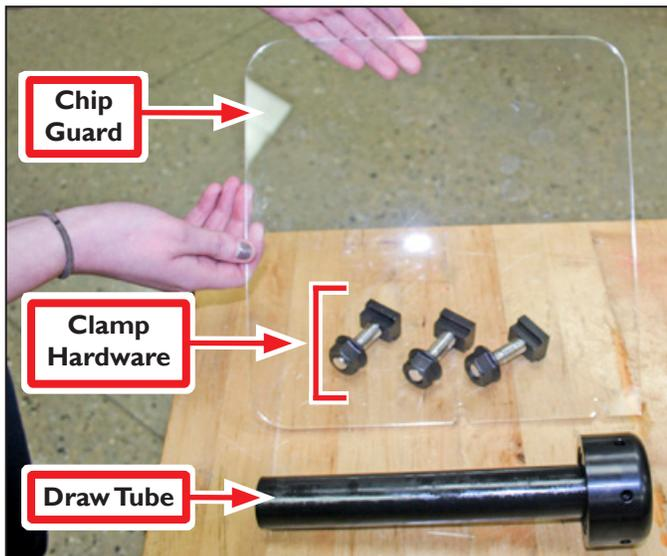
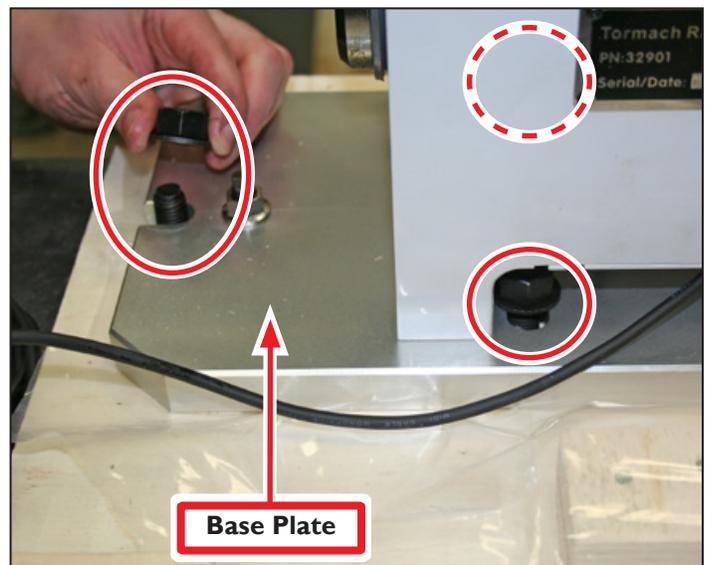

Figure 2.4
Figure 2.9
1. Remove Chip Guard, Clamp Hardware (three flange nuts, three threaded studs, and three T-nuts), and Draw Tube from pallet (see **Figure 2.4**); set aside.
7. Using an adjustable wrench, loosen and remove three hex head bolts securing RapidTurn Base Plate to shipping pallet (see **Figure 2.9**); discard. Clamp Hardware (see **Figure 2.4**) is used in place of hex head bolts to secure RapidTurn to machine table.
**NOTE:** One hex head bolt is on front of Base Plate; two others are underneath RapidTurn headstock (see **Figure 2.9**).
2. Identify Clamp Hardware set aside earlier (see **Figure 2.4**); remove flange nut from each threaded stud and set aside.